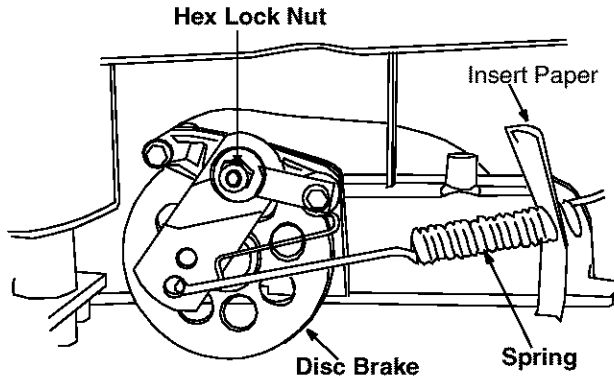

Figure 26
- Working on the right side of the tractor, try inserting a piece of paper through the coils of the brake spring. See Figure 26.